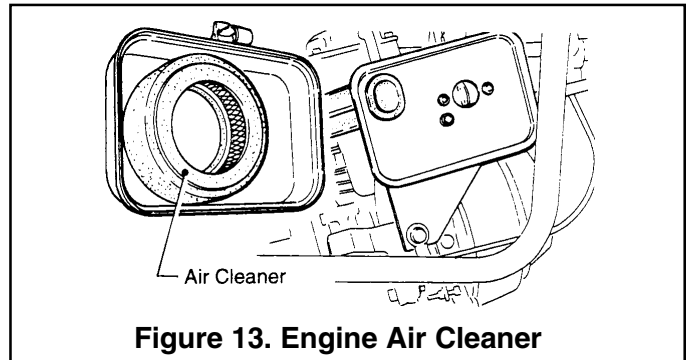

Figure 13. Engine Air Cleaner
- The air cleaner (Figure 13) on the engine side will hardly be contaminated, if it is, however after cleaning the element with kerosene, dip it in mixed oil consisting of 3 parts of gasoline and 1 part of engine oil. Then tightly squeeze outer primary element (sponge) and shake off well the inner secondary element before installing them.